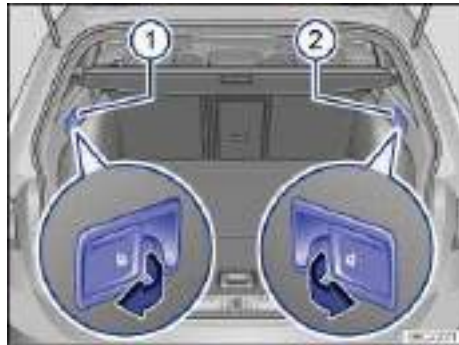

Fig. 90 In the luggage compartment: Release levers for the left 1 and right 2 sections of the rear backrest
- Pull the release lever for the left ⇒ fig. 90 (1) or right (2) section of the rear seat backrest in the direction of the arrow. The unlocked section of the rear seat backrest folds down automatically.